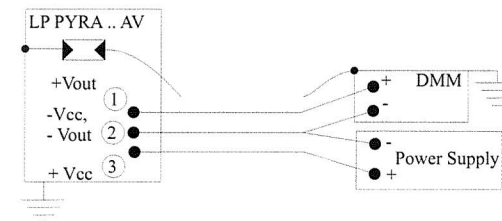

Fig. 6
- LP PYRA 03 AV is to be connected to a DMM and a power supply as show below (Figure 6). To read the signal, the load resistance must be  $\geq 100k\Omega$